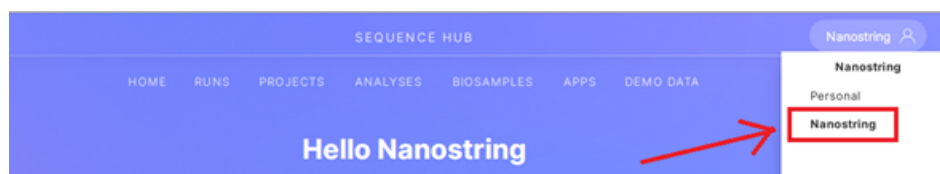

Figure 19: Select your workgroup. In this example, the workgroup is Nanostring.
2. Select your preferred workgroup (Figure 19).